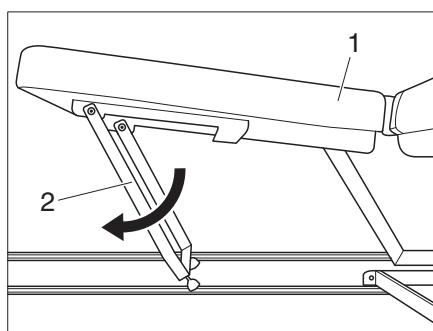

Fig. 5 Unfold the feet
- Fold down the feet (Fig. 5,2) under the bed extension (Fig. 5,1) until they lock into a vertical position.